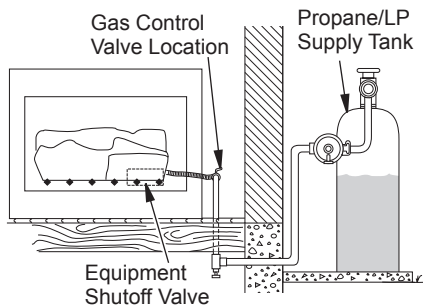

Figure 18 - Checking Gas Joints (Propane/LP only)
3. Check all joints from gas meter to equipment shutoff valve for natural gas or propane/LP supply to equipment shutoff valve for propane/LP (see Figures 18 and 19). Apply noncorrosive leak detection fluid to all joints. Bubbles forming show a leak.
4. Check all joints to gas control (see Figures 18 or 19, page 15). Apply noncorrosive leak detection fluid to all joints. Bubbles forming show a leak.